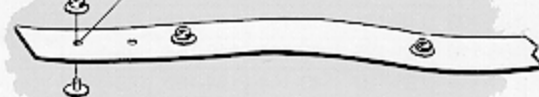

FIGURE 5
4. Pierce tape for master carrier (and return snaps, see Figure 4). Insert eyelet through hole, cover with male snap (see Figure 5) and rivet together, using No. 92900 bench snap tool (see Figure 6) or No. 92901 hand model snap tool. The prepared tape can be used on either panel, depending on the panel edge to which master end of tape is sewn.